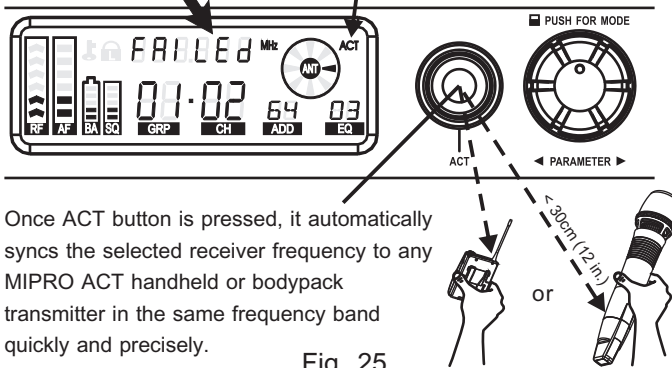
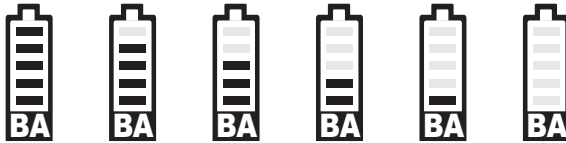

Fig. 25
Fig. 26
- (1) Align both infrared ports of transmitter and receiver. Press the ACT button on the receiver, the word "Sync" is displayed to denote channel synchronization is in progress. FAILED appears after 10 seconds if the synchronization was performed unsuccessfully. Repeat ACT synchronization set-up.
- (2) For a successfully ACT channel synchronization, make sure transmitter is powered on, infrared ports are facing each, and within 30cm distance, Fig. 25.
- (3) A successful ACT synchronization transmits both channel and a randomly generated encrypted key to the transmitter.
(A) Battery Meter: The battery meter is lit when the transmitter is powered on. The battery meter gives a percentage (%) indication of remaining battery life, as shown. Replace with new, fresh batteries when battery indicators fall to 10% (1 indicator remaining), Fig. 26.